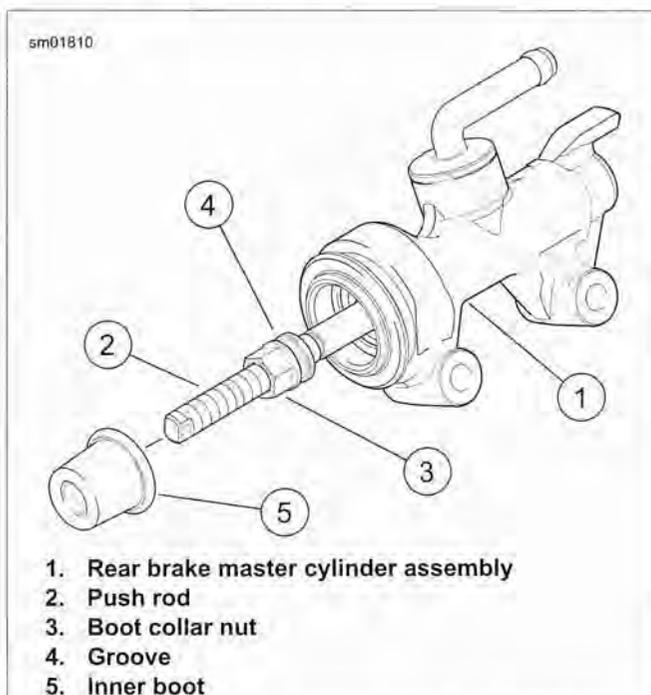

Figure 2-77. Lubricating and Installing Inner Boot
- See Figure 2-77. Apply approximately 0.1 g of G40M BRAKE GREASE around groove (4) in boot collar nut (3). Carefully slide inner boot (5) down onto push rod (2) and into end of master cylinder bore. Press lip of inner boot down around groove in boot collar nut.